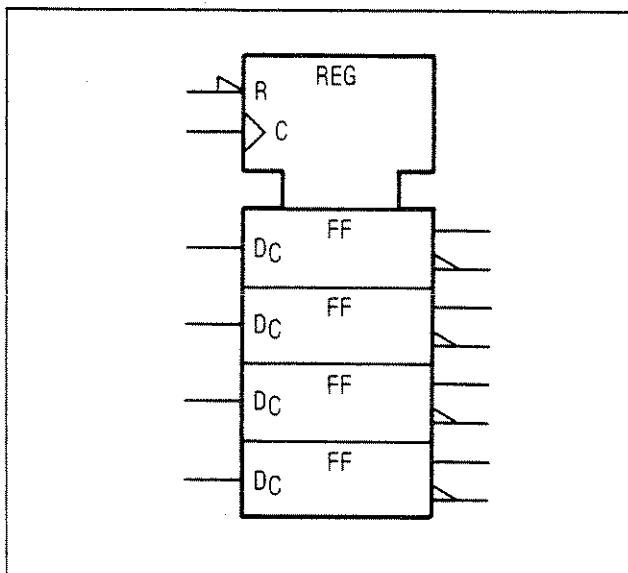

Figure 8-101. Quad D-Type Latch
Quad D-Type Latch. The register control block illustrates a quad D-type latch (see Figure 8-101). There is a common active-low reset (R), and a common edge triggered control input (C). Since there is only one dependency relationship, the controlling input is not numbered and the controlled functions (D) are subscripted with a C.